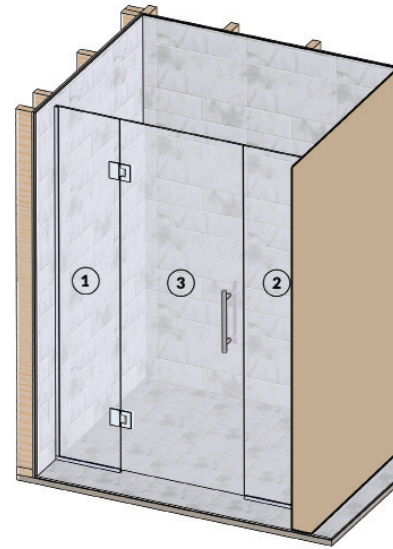

FIG 14.
- When panels are correctly aligned, remove panel 1 (FIG 14). and run a thick continuous line of silicone down the inside of the wall channel (FIG 15) and apply liberally in the wall to floor channel join and along the floor channel to the length of the glass panel.
- Repeat steps 8 and 9 with panel 2 (FIG 14).